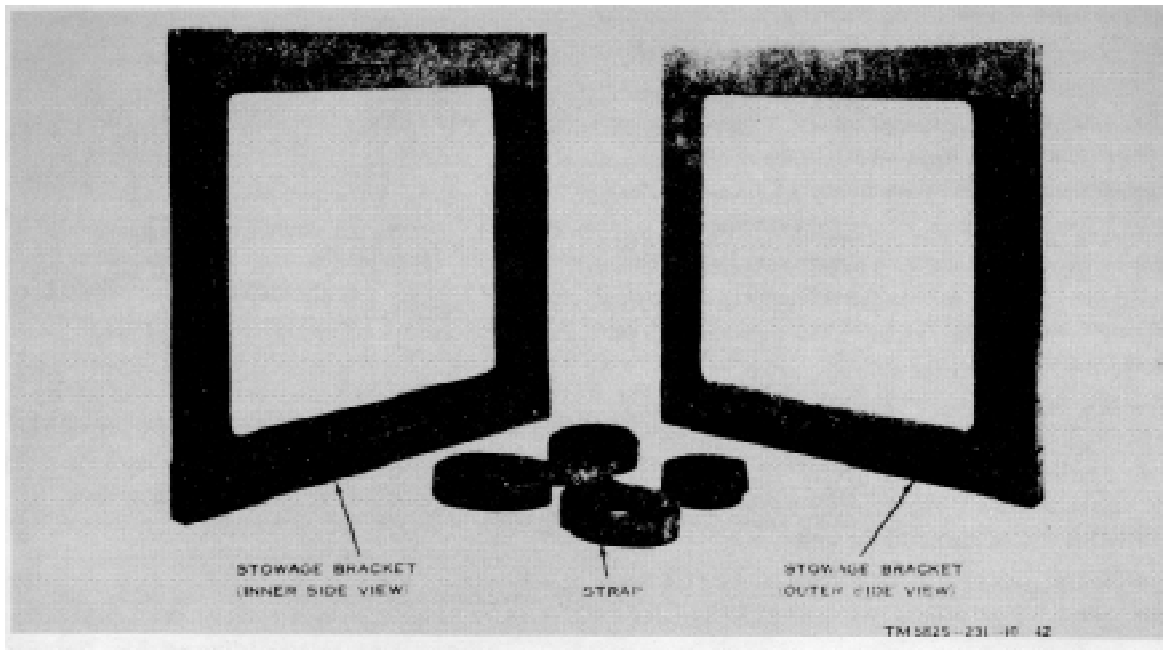

Figure 1-28. Antenna base stowage kit.
e. *Antenna Base Stowage Kit.* The antenna bases (fig. 1-6) are stowed in five units (fig. 1-28), each unit a cube as shown in figure 1-29.